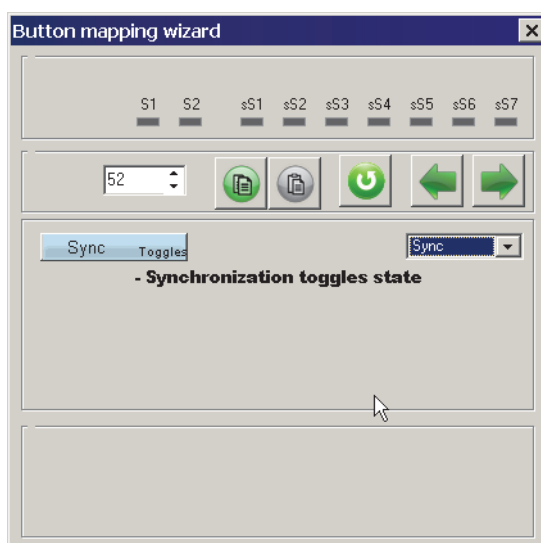

Fig. 4.68.
**Button mapping wizard** dialog for Sync function is shown on Fig. 4.68.